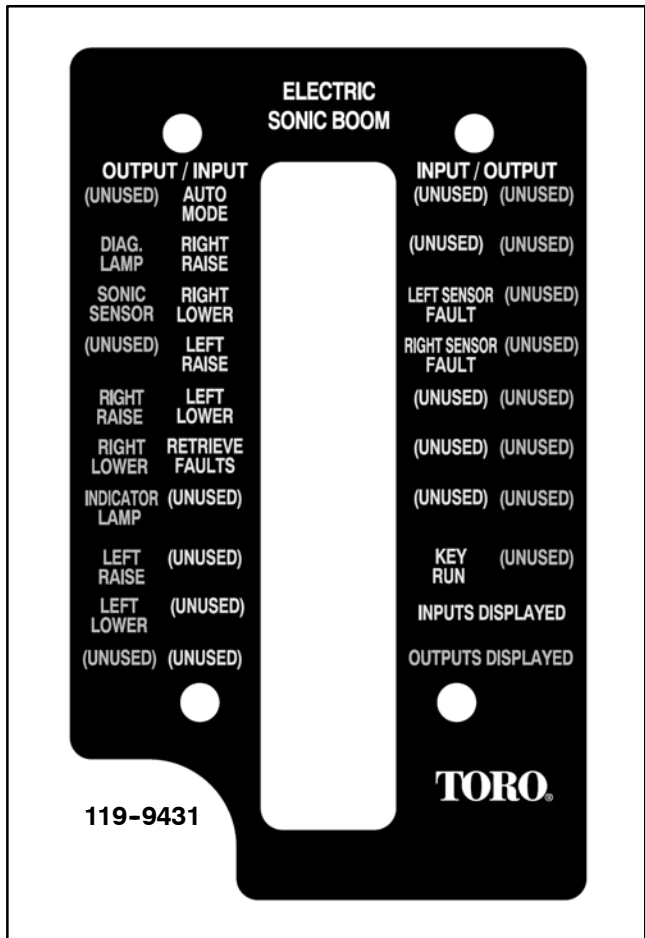

Figure 11
3. Connect the Diagnostic Display connector to the wire harness communication port connector. Make sure correct overlay decal is positioned on the Diagnostic Display (Fig. 11).